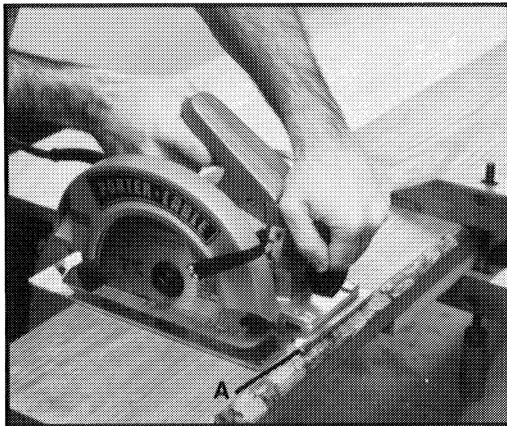

Fig. 8
On the right front part of the base, a beveled edge (A), Fig. 8, is provided to aid the operator in guiding the saw parallel to the desired line of cut when the saw is set at 90 degrees or at any bevel angle to 45 degrees.
Clamp work on a rigid support such as a bench or saw horses. See Fig. 8. Mark the line of cut on the work. Be sure cut-off line is beyond end of support to the right, only enough to allow proper operation of the telescoping guard. Place front edge of saw squarely on work before starting motor. Sight the cutting line with the cut-line indicator (A), Fig. 8. Back saw up slightly and start motor. Move saw forward keeping the edge of cut-line indicator parallel to line of cut.
Cutting directly across the grain of a piece of lumber is called crosscutting. Fig. 8 illustrates a crosscut operation. Position the work so that the cut will be on the right, as shown.